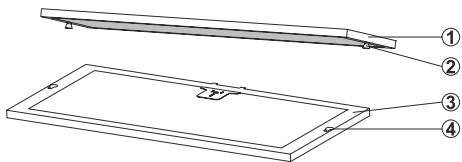

Fig. 8: Placing the active carbon filter
2. ➤ Active carbon filter is placed on the rear side of the metal oil filter Push it to the side to remove it.(Fig. 8).